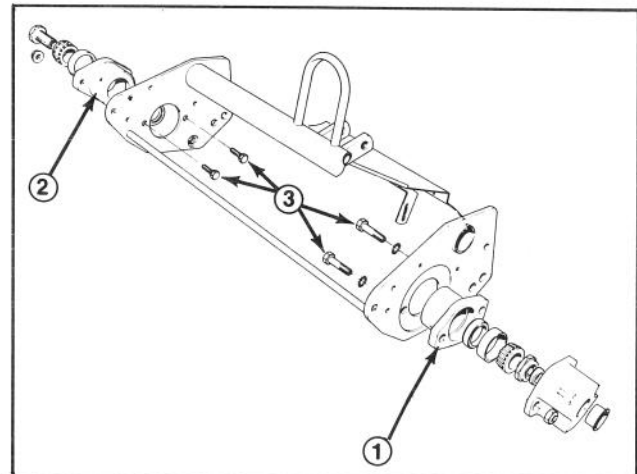

Figure 6
6. Remove and discard the machine screws holding the right and left reel bearing housings to the cutting units (Fig. 6). The machine screw heads will have to be cut off before the screw can be completely removed. The procedure would be to unscrew the machine screw a couple of turns, cut off the head (Fig. 6), and then back out the remainder of the screw from the side plate with a screw driver (outwards not inwards towards the reel). If the machine screw does not have a screw driver slot, use a pliers to back out the screw.